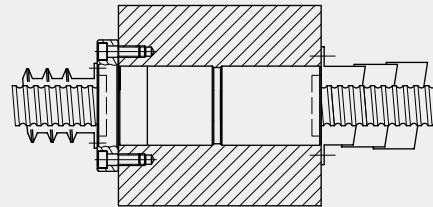

Fig 4.6 Ballscrew protection by telescopic or bellow type covers
- (7) In environments contaminated by dust or metallic debris, ballscrews should be protected using telescopic or bellow-type covers. The service life of a ballscrew will be reduced to about one-tenth normal condition if debris or chips enter the nut. The bellow type covers may need to have a threaded hole in the flange to fix the cover. Please contact engineers when special modifications are needed (Fig 4.6).